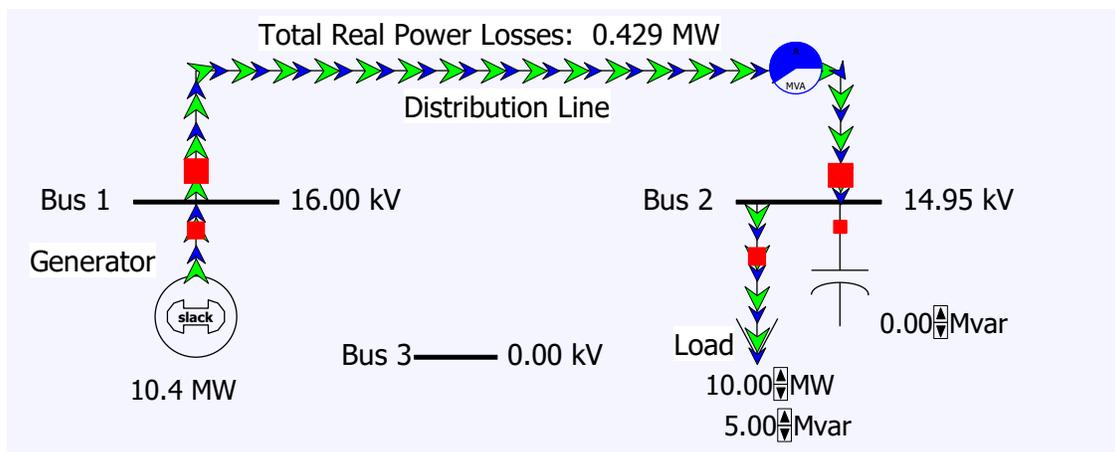
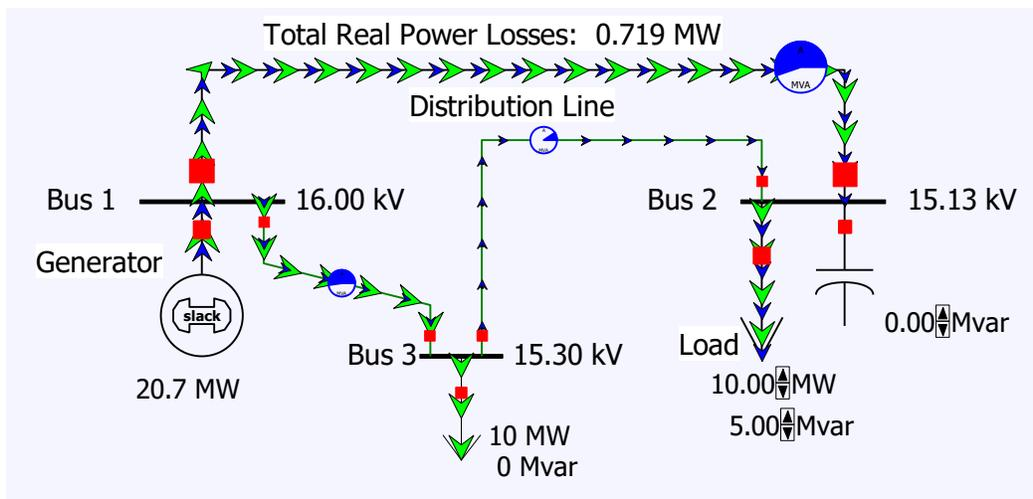

Figure 1: Initial Case Oneline Diagram
Figure 2: Oneline Diagram After Line Addition
This lab introduces PowerWorld, and shows how shunt capacitors can be used for reactive compensation. Power system analysis requires a model of the power system. With PowerWorld, you can either build a new case (model) from scratch or start from an existing case. Most of the time, including here, we'll start from an existing case. In ECEN 460 using PowerWorld we'll be assuming a balanced three-phase, 60 Hz ac system. The model of the system can be shown using a oneline diagram. As the name implies on a oneline the actual three phase conductors are shown using a single line. The initial oneline used here is shown in Figure 1.
1. Start PowerWorld. To open the initial case click **File**, then select **Open Case**. This displays the Open Dialog. Select the Lab2_Start case, and then click **Open**. The display should look similar to Figure 1.
6. Next, we will add load at bus 3 and then connect it to the other buses by distribution lines. First switch to **Edit Mode**. Load can be inserted graphically by selecting **Network, Load**, and then clicking on bus 3. The Load Options dialog appears, allowing you to set the load parameters. Note that the load was automatically assigned to bus 3. Leave all the fields at their default values, except set the orientation to "Down," and enter 10.0 in the Constant Power column MW Value field. As the name implies, a constant power load treats the load power as being independent of bus voltage; constant power load models are commonly used in power system analysis. By default PowerWorld "anchors" each load symbol to its bus. This is a handy feature when changing a drawing since when you drag the bus the load and all associated fields move as well. Note that two fields showing the load's real (MW) and reactive (Mvar) power were also auto-inserted with the load. You should resize the fields using the **Draw, Format, Font** command.
8. Now we need to join the bus 3 load to the rest of the system. We'll do this by adding a line from bus 2 to bus 3. Select **Draw, Network, Transmission Line** and then click on bus 2. This begins the line drawing. During line drawing PowerWorld adds a new line segment for each mouse click. After adding several segments place the cursor on bus 3 and double-click. The Transmission Line/Transformer Options dialog appears allowing you to set the line's parameters. Note that PowerWorld should have automatically set the "from" and "to" bus numbers based upon the starting and ending buses (buses 2 and 3). If these values have not been set automatically then you probably did not click exactly on bus 2 or bus 3; manually enter the values. Next, set the line's Series Resistance (R) field to 0.3, the Series Reactance (X) field to 0.6, and the MVA Limits Limit (A) field to 20 (transformer and transmission line modeling will be covered in future lectures). Select **OK** to close the dialog. Note that PowerWorld also auto-inserted two circuit breakers and a round "pie chart" symbol. The pie charts are used to show the percentage loading of the line. You can change the display size for these objects by right-clicking on them to display their option dialogs.
10. Switch back to **Run Mode**, start the simulation, make sure the Bus 2 load is again 10.0 MW and 5.0 Mvar. At the end of this step your oneline should be similar to what is shown in Figure 2.